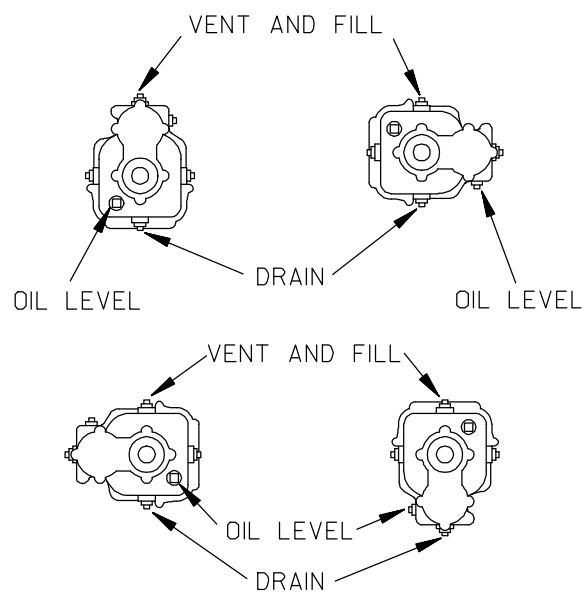

Figure 5. Gearbox Lubrication Positions
The gearbox was fully lubricated when shipped from the factory. Check the oil level regularly at the oil level pipe plug(s) as shown in Figure 5. When lubrication is required, add gear oil through the hole for the air vent (4) the oil level reaches the level shown in the illustration. Clean and reinstall the air vent plug and pipe plug. **Do not** over-lubricate. Over-lubrication can cause the bearings to over-heat, resulting in premature bearing failure.